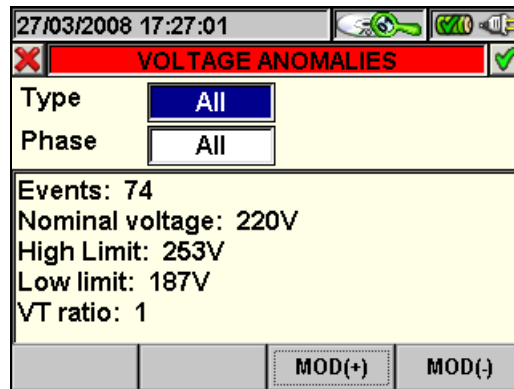

Fig. 132: Voltage Anomalies
- The **F2** key (or the **PARAM** item on the display) accesses the page showing the settings for voltage anomalies (Fig. 132).